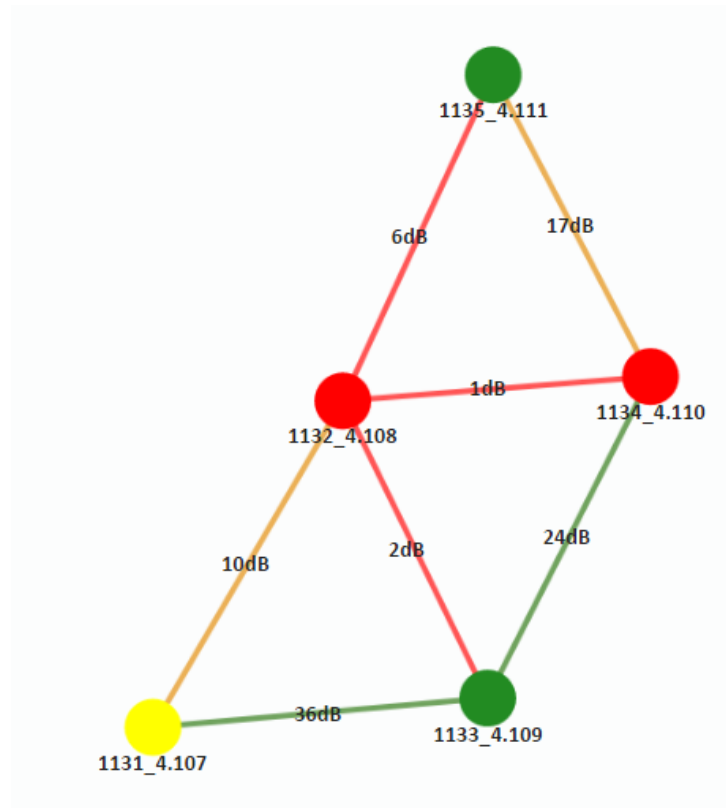

Figure 55 Example Network Topology
- **Color Coded Link Health** – Color coding of each link in the network allows the user to quickly identify the weak links within a network. A link between two nodes will transition from green to yellow to red as the link weakens while also displaying the SNR of the link. This can be seen in **Figure 55**.
- Route Health** – The Silvus StreamScape Utility will alert the user when too many packets are being routed through a single node. In such cases, a node will change from green to yellow to red as the packet queue increases (see ‘1132_4.108’ and ‘1131_4.107’ in **Figure 55**). This will allow the user to recognize the issue and rearrange the network accordingly. Table below also shows the values for each scenario.